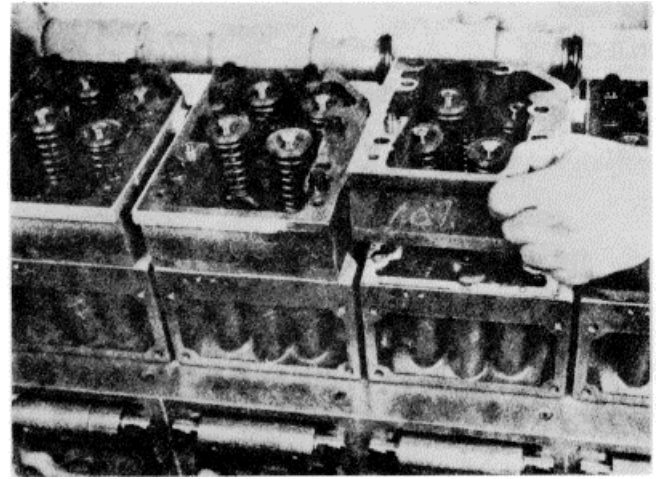

Figure 16B-33. Remove the Rocker Lever Housings
3. Remove the rocker housing capscrews and lift the housing from the cylinder head, Figure 16B-33.